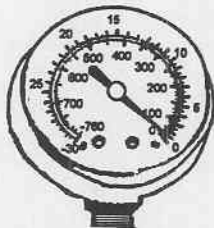

Figure 2-3. Vacuum gauge.
c. Vacuum gauge (fig 2-3). This dual-scale gauge indicates the preset maximum deliverable vacuum level when adjusted and then the gauge continuously indicates the patient circuit vacuum level. The dual-scale vacuum gauge is marked in millimeters and inches of mercury.